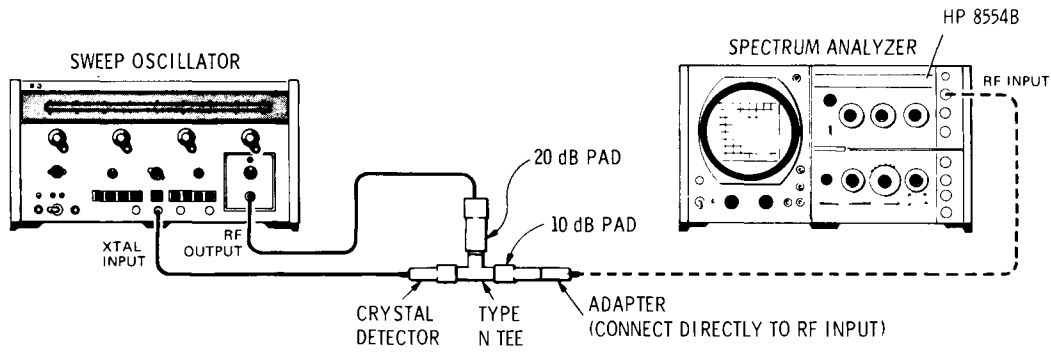

Figure 4-3. Frequency Response Test: 100 - 1250 MHz
1. To check the analyzer's frequency response from 100 MHz to 1250 MHz, connect the test setup shown in Figure 4-3. Make the following control settings: